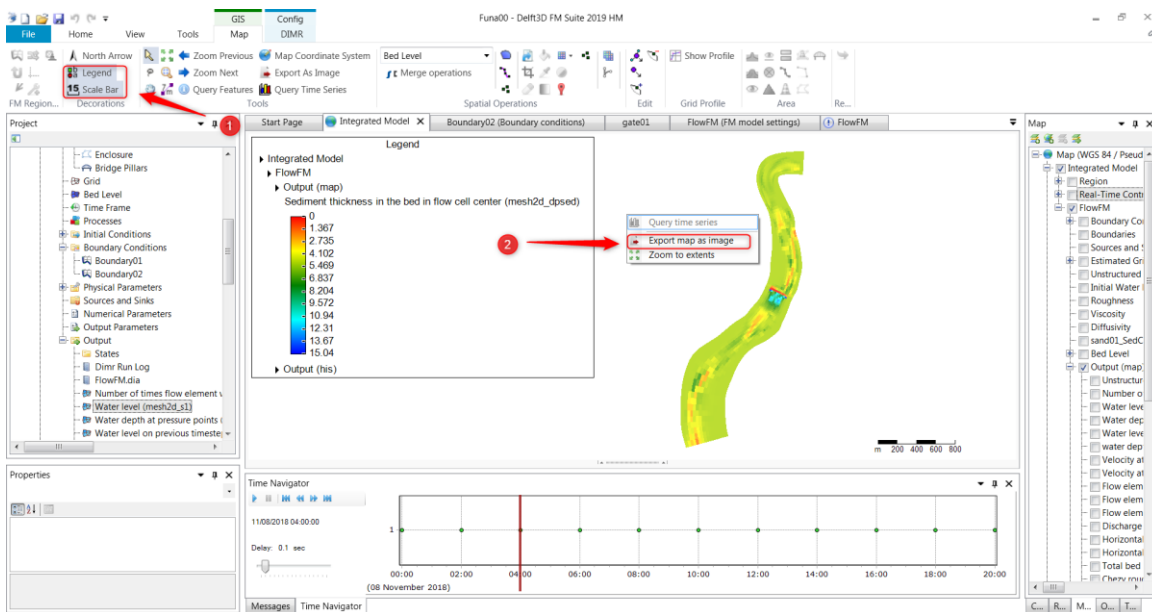

Figure 3.3 Print the model results
- You can print the results as “png” as shown in Figure 3.3.